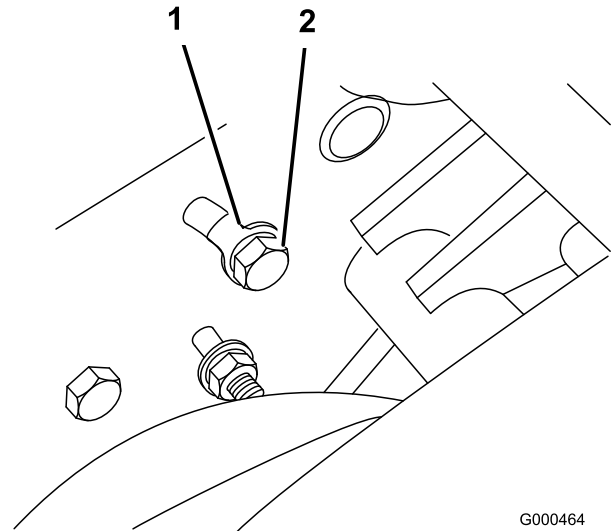

Figure 43
- A. On back side of side plate, loosen the bolt securing the idler bracket to the side plate (Figure 43).